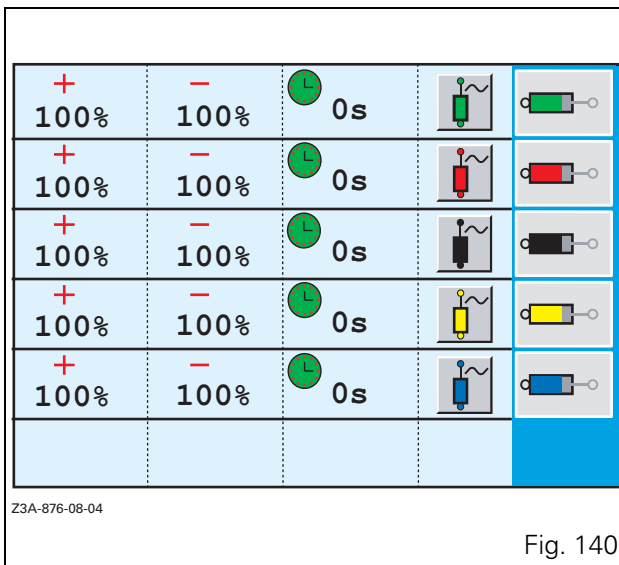

Fig. 140
7.12.3.1 - Setting flow rates (Fig. 140)